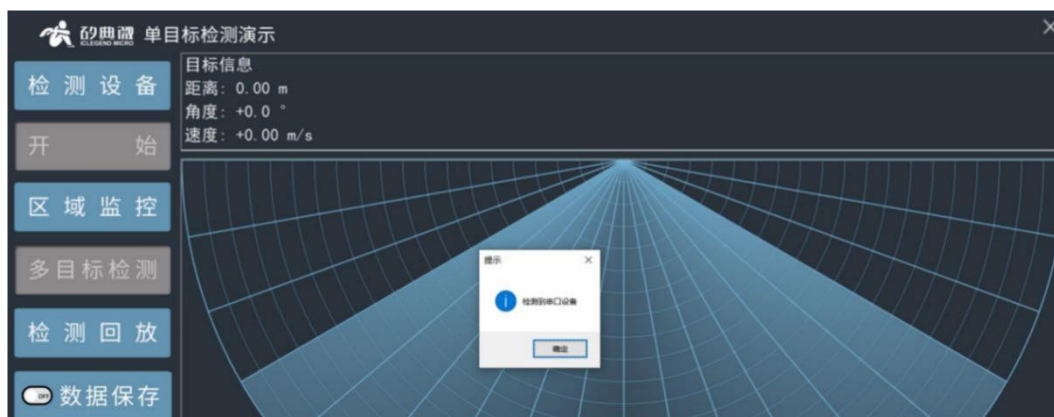

Figure 4-3 Device successfully detected
Step 2: Click the "Detect Device" button on the interface. If the serial port connection is correct, a "Serial port device detected" prompt box will pop up on the interface, as shown in Figure 4-3. Click "OK" to continue.